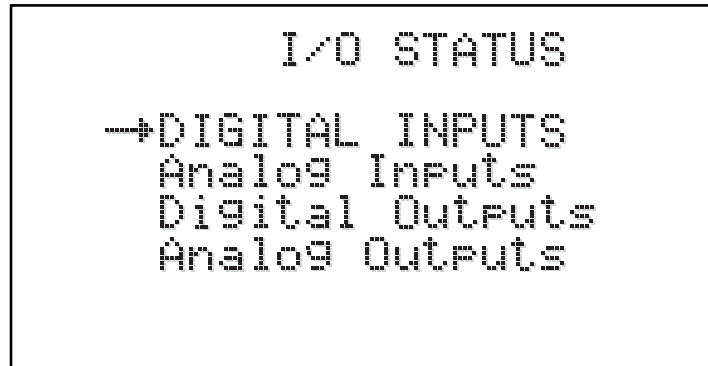

Figure 48
4.3.4.3 I/O Status (Figure 48)
Selecting the I/O Status from the SERVICE MENU displays the Digital Inputs, Analog Inputs, Digital Outputs and Analog Outputs selection menu (Figure 48). Use the **UP** and **DOWN** key to make a selection and press the **ENTER** key.